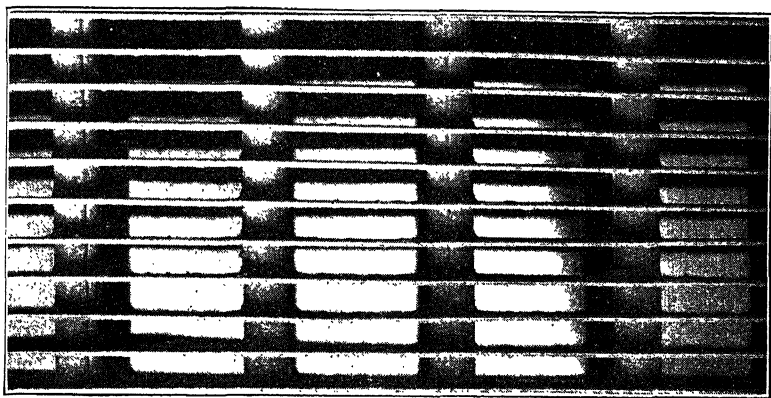

Fig. 8. Section of a Round-Tube Radiator Core
*Round-Tube Radiator Core.* The round-tube radiator core was long popular and is representative of the earliest practice. In this case copper or brass tubes are set between upper and lower tanks and in order to facilitate cooling, thin copper fins are assembled upon the tubes at regular spaces. The section of the core shown in Fig. 8 is a full size view of this type of equipment. In order to secure proper cooling, it is quite essential that the thin copper fins be sweated on to the tubes so that the inner core is an integral mass. At one time radiators were built without making use of this method of sweating the parts together, with the result that it was impossible to cool the car.
The simple construction embodied in the style shown in Fig. 8